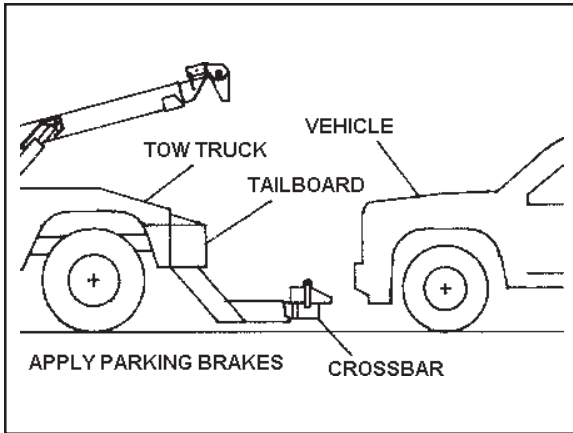

Figure 4-4.
8. Maneuver the tow truck into position for loading. The cross bar of the underlift should go under the vehicle. Stop backing when the tailboard of the tow truck is close to the vehicle. Apply the truck's parking brakes. (See Figure 4-4.)